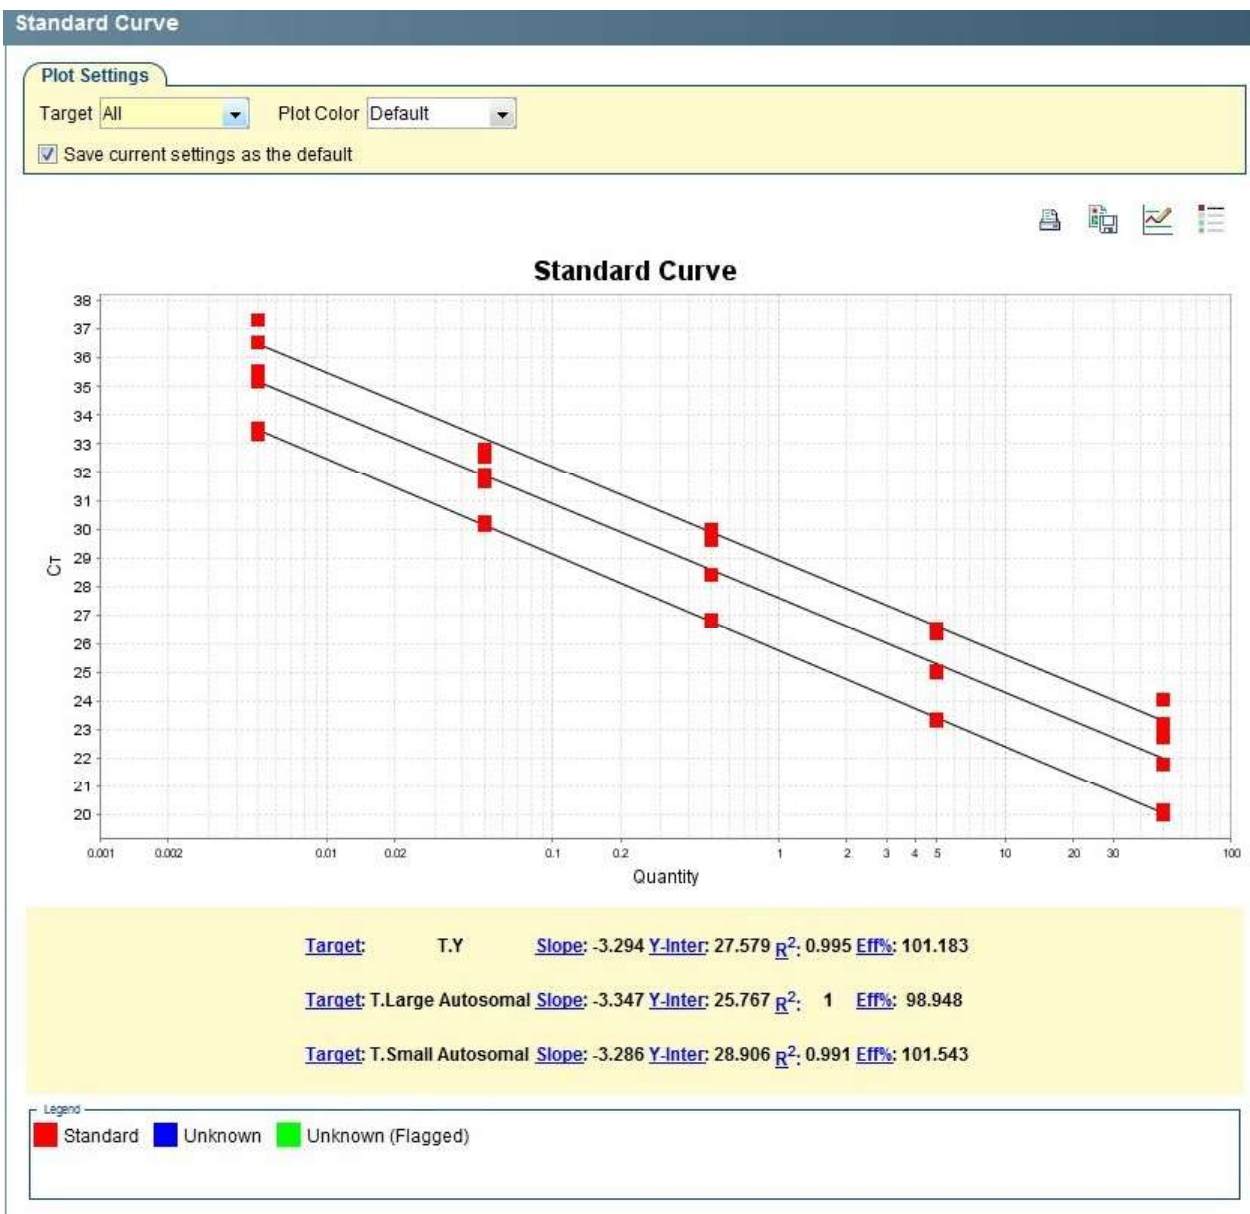

Figure 17: Standard Curve Results in the Analysis Tab, the standard at the top-left is STD#5
5. To check the standard curve results (Figure 17), click on the **ANALYSIS** tab → **STANDARD CURVE** on the left navigational panel. On the **VIEW PLATE LAYOUT** tab to the right of the screen, only highlight the wells where DNA standards occur on the plate. Assess the standard curve results and ensure that the slope, Y-intercept and R^2 values fall within the allowable ranges for all targets (Table 6).